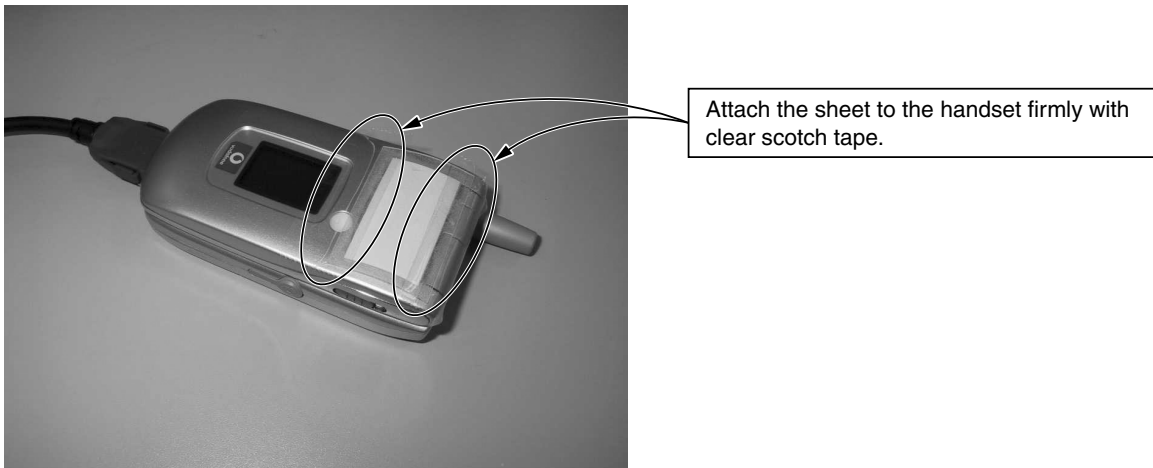

Figure 80
1. Cover the camera section with the black defect correction sheet as shown in Figure 80.